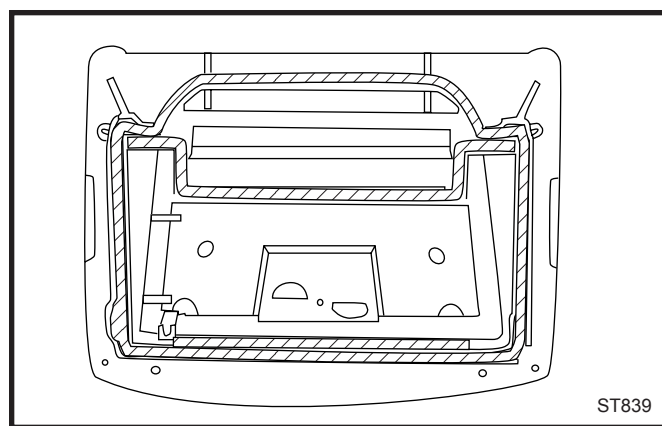

Fig. 6 Bottom plate cement locations.
11. Cement the channels in the stove bottom as indicated in Figure 6.